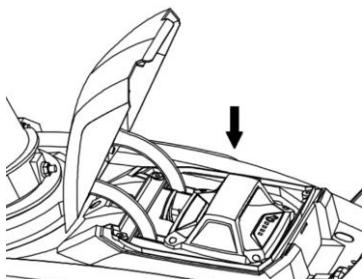

Fig.1
1. Open the battery compartment cover and slide the battery vertical down as Fig 1 shows.